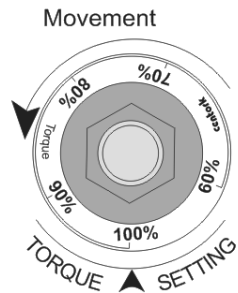
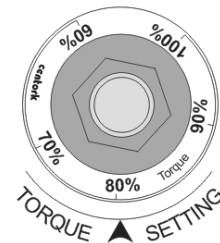

Figure 12.4-4
Figure 12.4-5
- Using a No.17 wrench, turn the **TORQUE LIMIT DEVICE** until the desired torque matches with the arrow **S** on the dial. (Figure 12.4-4 and Figure 12.4-5).